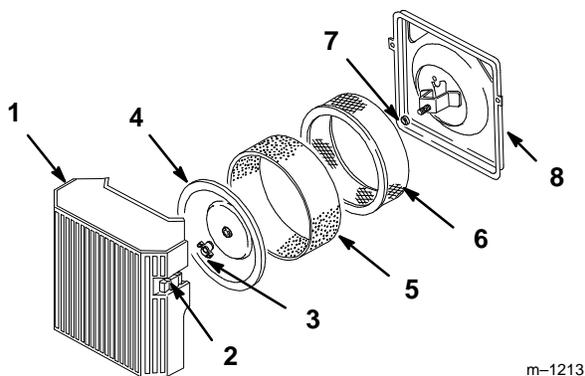

Figure 13
2. Clean around the air cleaner to prevent dirt from getting into the engine and causing damage. Unhook latches and remove the air cleaner cover (Fig. 13).
3. Carefully slide the foam element off the paper element (Fig. 13).
4. Unscrew the cover nut and remove the cover and paper element (Fig. 13).
1. Carefully slide the foam element onto the paper air cleaner element (Fig. 13).
2. Place the air cleaner assembly onto the air cleaner base (Fig. 13).
3. Install the air cleaner cover and secure with cover nuts (Fig. 13).